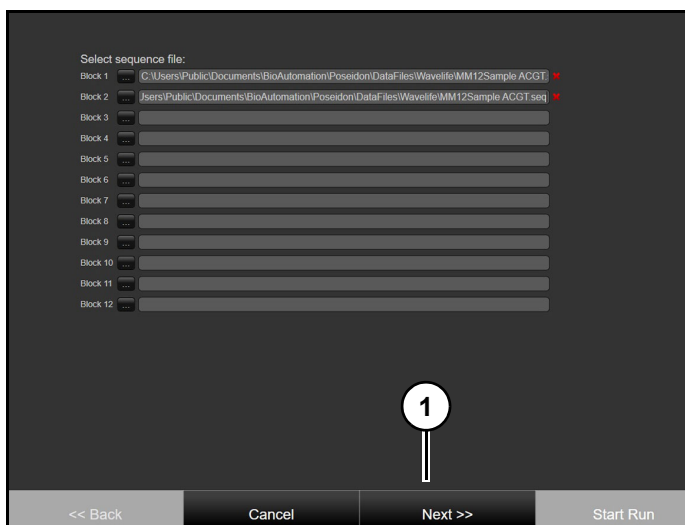

Figure 78
3. Click "Next" (1) (Figure 78).